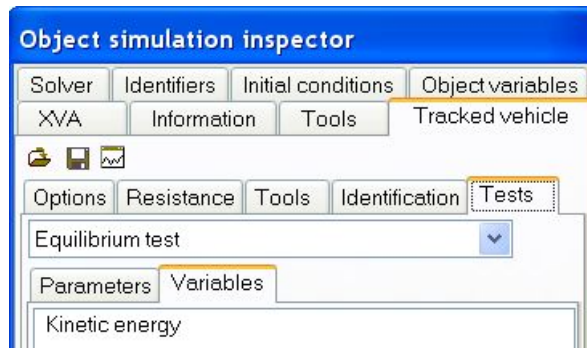

Fig. 41 Equilibrium test
- 1) Load the model of TV in UMSimul. Open the Object simulation inspector by the **Analysis | Simulation** menu command. Open the **Tracked vehicle | Tests** tab. Select the **Equilibrium test** from the drop-down list, Fig. 41.